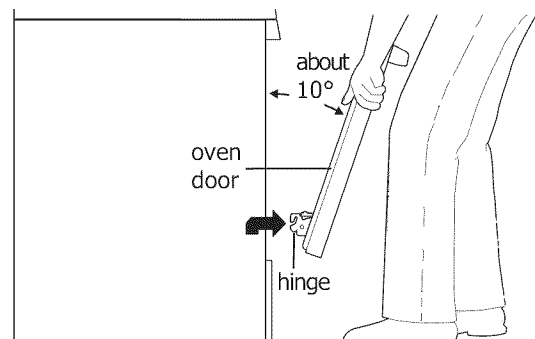
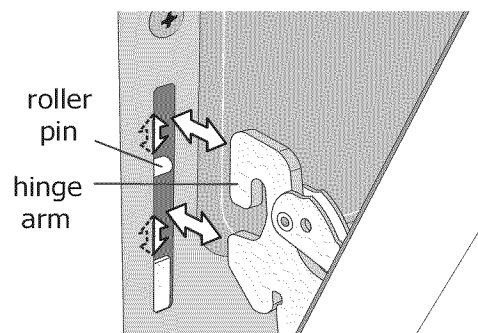

Figure 49: Holding door for removal
Figure 50: Location of hinge arm and roller pin
3. Firmly grasp both sides of oven door along the door sides. Do not use the oven door handle (See Figure 49).
5. Lift the oven door hinge arms over the roller pins located on each side of the oven frame (See Figure 49).
1. Firmly grasp both sides of oven door along the door sides. Do not use the oven door handle (Figure 49).
2. Holding the oven door at the same angle as the removal position (Figure 49), seat the hook of the hinge arm over the roller pins located on each side of the oven door frame (Figure 50). The hook of the hinge arms must be fully seated onto the roller pins.